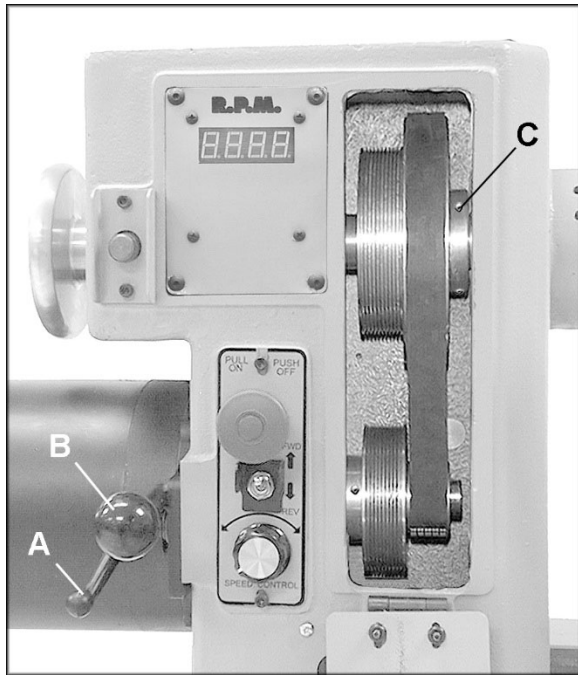

Figure 22
3. Loosen the pivot lock handle (A, Figure 22) and lift up the tension handle (B, Figure 22) to raise the motor. Tighten the pivot lock handle (A, Figure 22) to hold the motor in the raised position.
5. Loosen the pivot lock handle (A, Figure 22) and lower the motor to tension the belt. Be sure that the Poly-V grooves of the belt seat properly in the corresponding groove of the sheave. Do not overtension; a very light pressure on the tension handle (B, Figure 22) is adequate to prevent belt slippage.
6. Tighten the pivot lock handle (A, Figure 22).
The motor and spindle sheaves are aligned with each other at the factory, but if any service is performed that affects their alignment it is very important that they be realigned. To realign them, loosen the two set screws on the spindle sheave (C, Figure 22) with a hex wrench, and slide the spindle sheave into the proper position. Re-tighten set screws.
2. Loosen the pivot lock handle (A, Figure 22) and lift up the tension handle (B, Figure 22) to raise the motor.
3. Tighten the pivot lock handle (A, Figure 22) to hold the motor in the raised position. Slip the belt off the pulleys.
7. If replacing the spindle sheave, loosen the two set screws (C, Figure 22), and slide the sheave off the spindle.